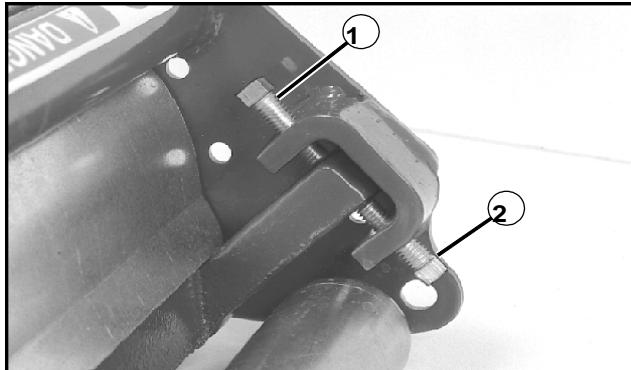

Figure 16
1. Loosen the **lower** adjustment screws at each end by turning them approximately 1/4 turn counterclockwise (See Figure 16).